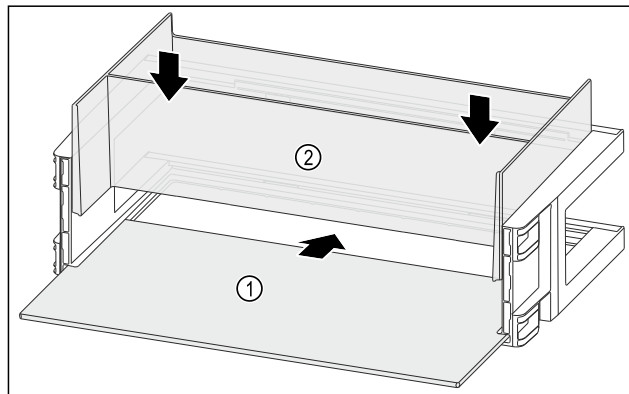

Fig. 122
- Push the shelf Fig. 122 (1) into the side recesses.
- Insert the organizer Fig. 122 (2).